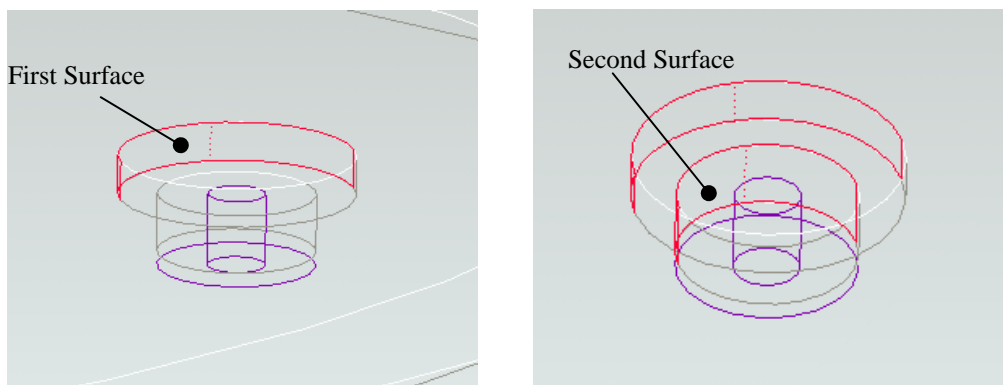

Figure 12: Choose the Surfaces to Profile.
- Step 10:** Choose the interior vertical surfaces of the first hole shown in Figure 12. Be sure to select both sides of the hole (four total surfaces). Use Ctrl to select multiple surfaces. Then add the same surfaces on the second hole.